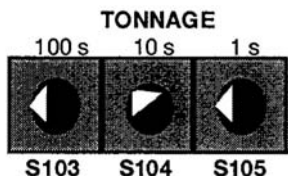

Figure 3-5. Blocks for setting full scale tonnage on AutoSet 1504
2. Find the three rotary switches in a row with white dials on them. See Figure 3-5. They are at the right middle of the main board. These are the settings for full scale tonnage.